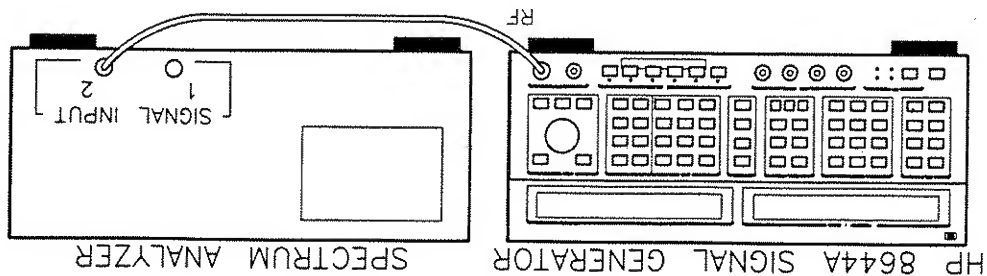

Figure 2-3. Equipment Setup for FM Procedure #1.
1. Connect the HP 8644A to the Spectrum Analyzer as shown in figure 2-3. Turn on the equipment, and make the following adjustments on the Spectrum Analyzer: